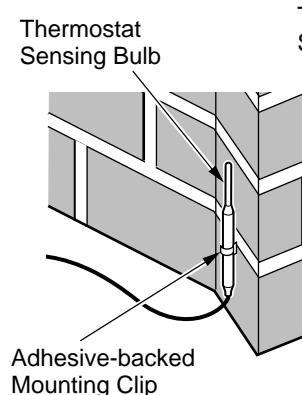
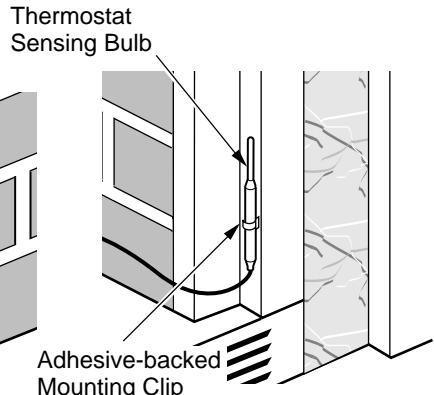
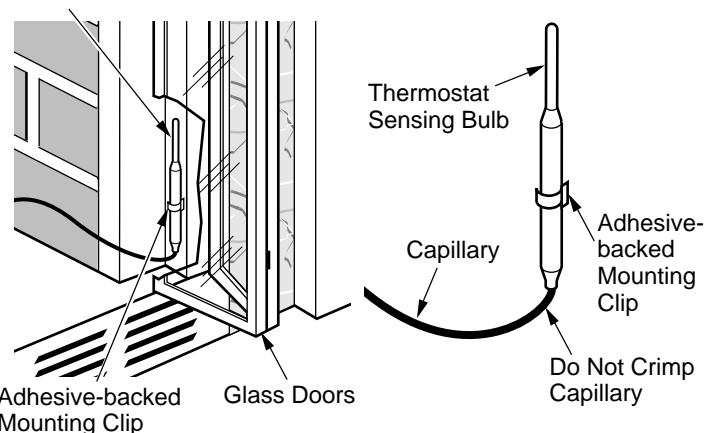

Figure 36 - Locating Thermostat Sensing Bulb on Masonry Fireplace
Figure 37 - Locating Thermostat Sensing Bulb on Factory-built Metal Fireplace
Figure 38 - Installing Thermostat Sensing Bulb behind Glass Doors
3. The thermostat sensing bulb may be located to the lower right front side of fireplace. Determine location of sensing bulb, but do not mount sensing bulb until step 5. If you have a masonry fireplace, see Figure 36 for location. If you have a factory-built metal fireplace, see Figure 37 for location. If your fireplace has glass doors, position sensing bulb directly behind door gap on right bottom side (see Figure 38).